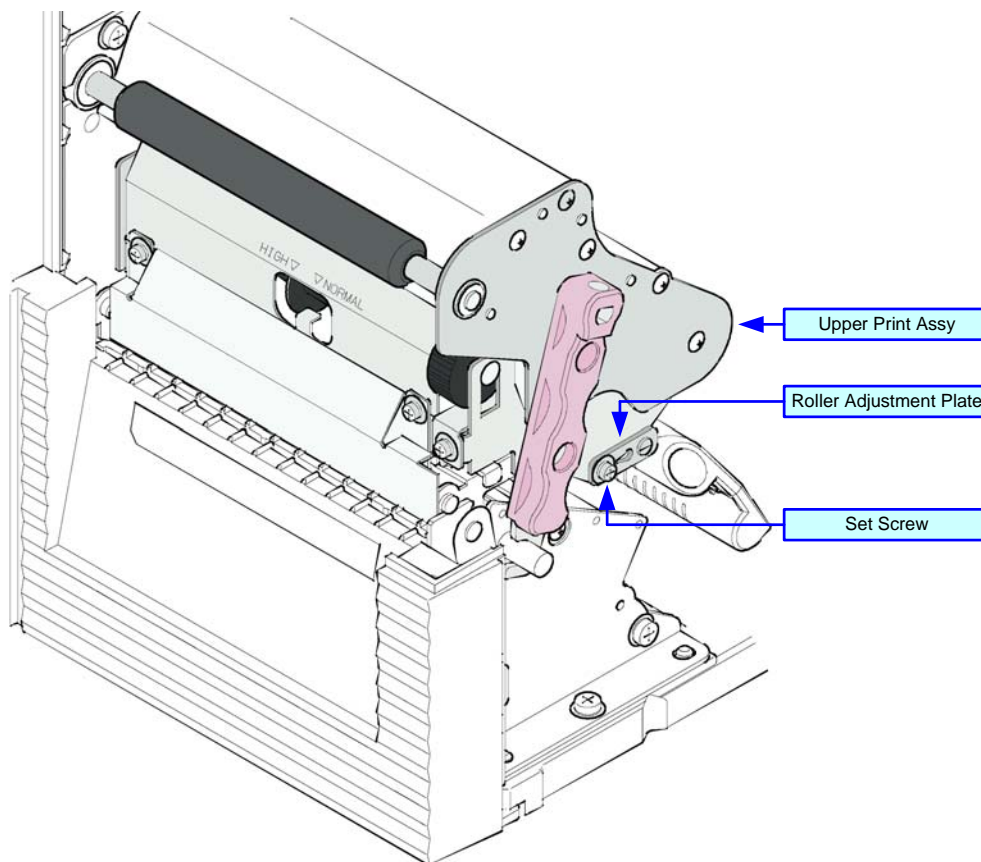

Figure 6-9, Ribbon Roller Alignment
**NOTE:** To facilitate viewing of pertinent components, Figure 6-9 does not show ribbon and media loaded. When performing this adjustment activity, both must be loaded.